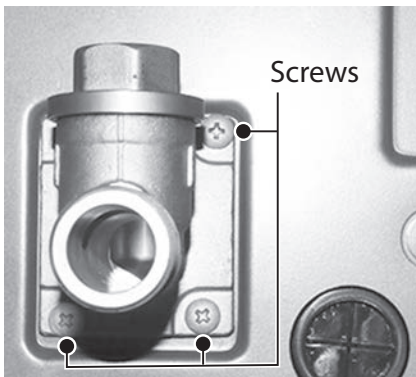

Figure 190 - Outlet assembly screw location
- 17** Locate the three (3) screws securing the outlet assembly to the base of the water heater. Use a Phillips screwdriver to remove the screws. Place screws aside in a safe place for reinstallation. See Figure 190.